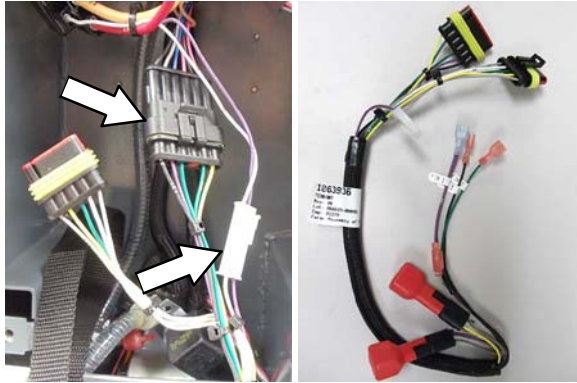

Fig. 5
- Disconnect the lithium-ion battery jumper harness and remove from machine (Figure 5).